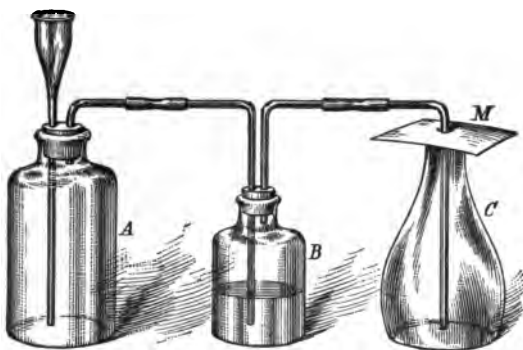

FIG. 26.
**13. To find Weight of One Liter of Carbon Dioxide.** — (For special students.) Arrange apparatus as shown in Fig. 26. *A* is a flask for generating carbon dioxide; *B* is a wash-bottle containing sulphuric acid. *C* should have a capacity of 200 to 300 cc. Find the weight of this flask together with the perforated cardboard, *M*, used as